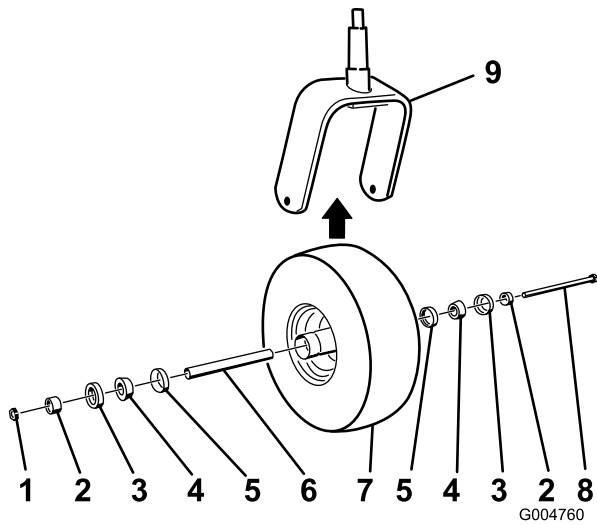

Figure 45
2. Remove the locknut from the bolt (Figure 45).
5. Assemble the caster wheel by pushing the cone bearings and seals, packed with grease, into the wheel hub, positioned as shown in Figure 45.